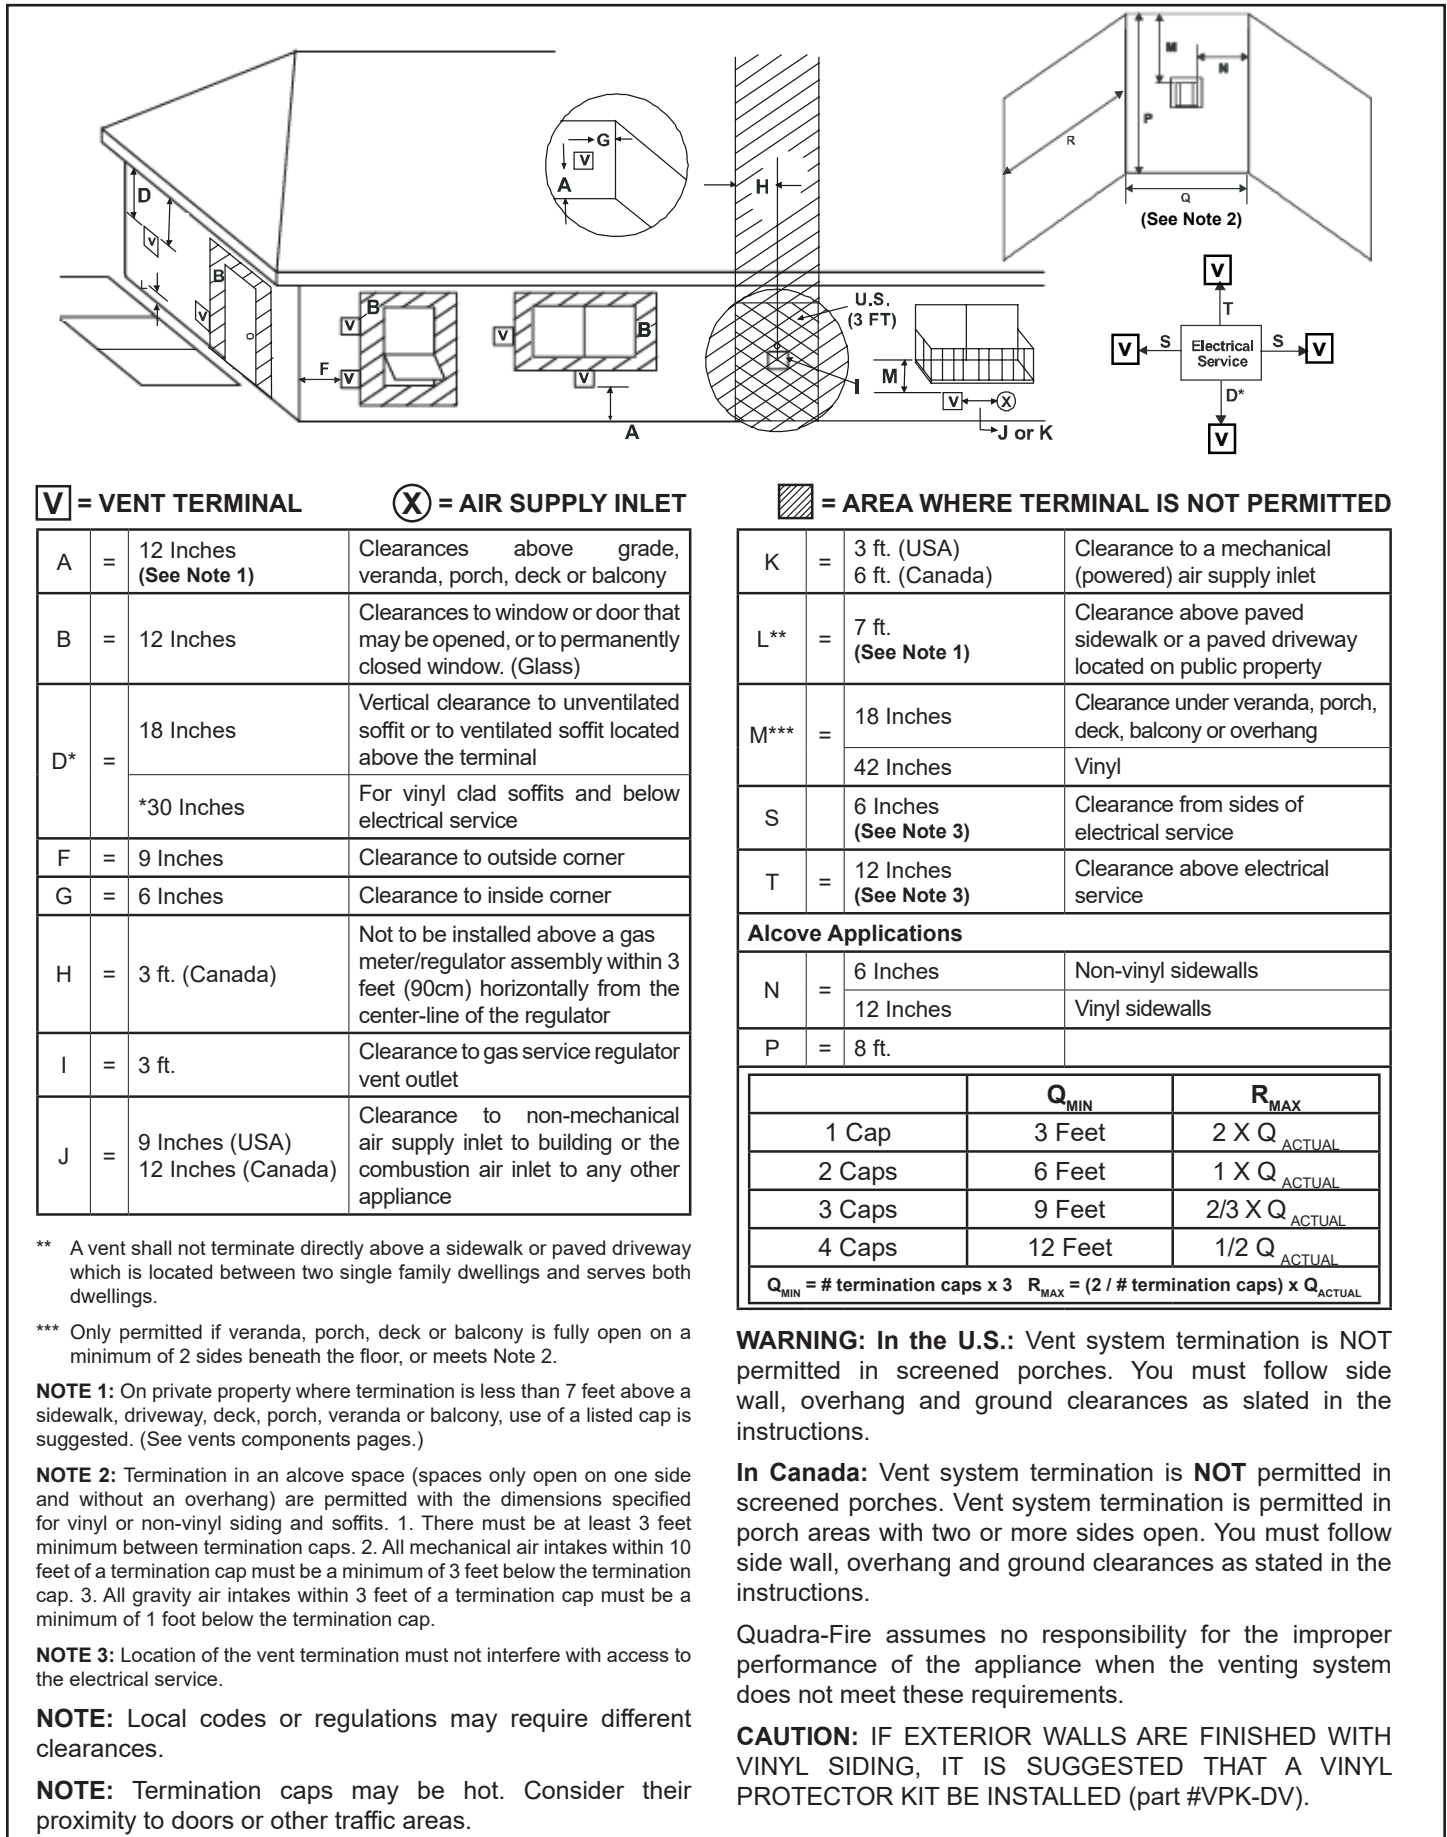

Figure 4.4
2. The location of the horizontal vent termination on an exterior wall must meet all local and national building codes, and must not be easily blocked or obstructed, see Figure 4.4.